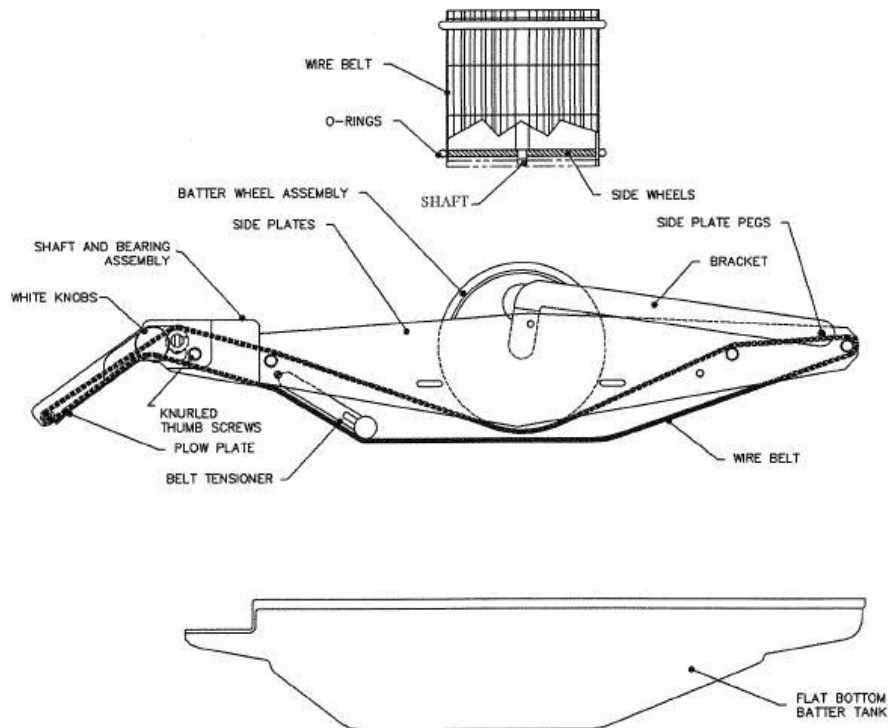

Figure 16
1. Remove the conveyor assembly from the batter tank. **(Figure 16)**